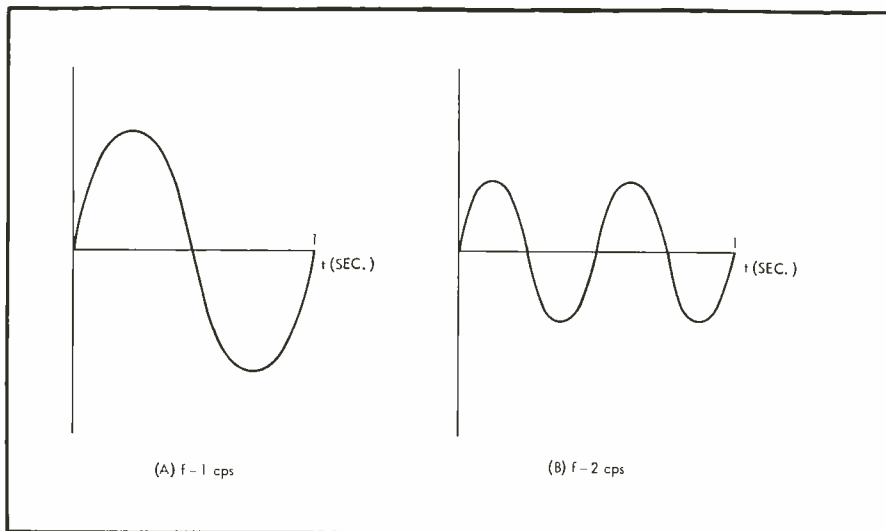

Fig. 3. (A), representation of one cycle per unit of time, and (B), representation of two cycles in the same unit of time.
The plot can be changed from being a function of ωt , to a function of time. This is shown at (A) in Fig. 3. When the wave goes through a complete cycle in 1 second, its frequency is 1 cycle per
second. If it does this twice in one second, its frequency is 2 cycles per second, as shown at (B). Each complete cycle represents an angle of 2π radians. The radius traversed these 2π radians twice in (B) of Fig. 3. The equation for the sine wave in (A) can be written as